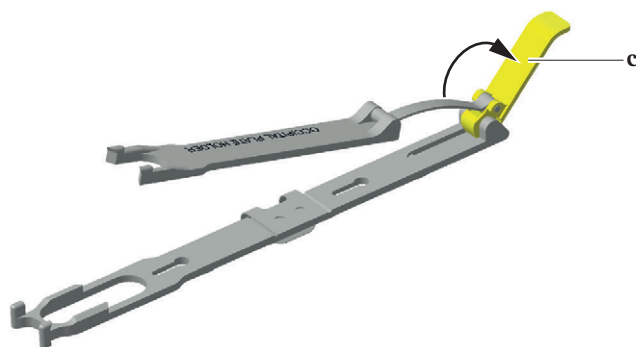

Fig. 20
- ▶ Push the lever **c** all the way back, see Fig. 20.